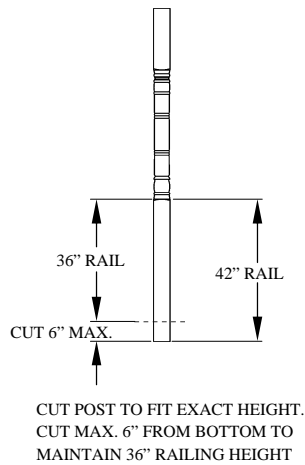

Fig.2
2. Cut the post to length as follows: for 42" railing height do not cut any from bottom of post (long end). For 36" railing height do not cut off more than 6" from bottom of post. Cut the remainder from the top of post (short end). If it is necessary to cut more than 3" from the top of the post, drive the 4 inserts surrounding the center square tubing further into the end of the post before cutting. Trim post and square tubing with a hacksaw or similar fine tooth saw. Be careful not to scratch or mar the outer finish of the post. See Fig.2 & 3.